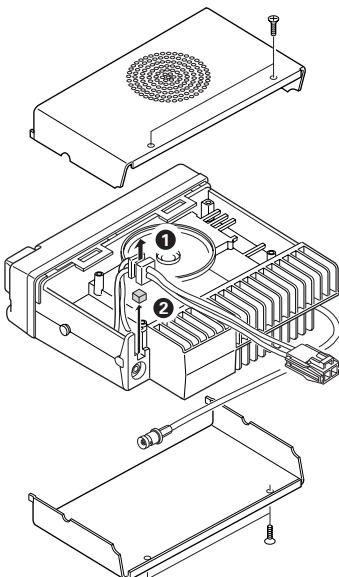
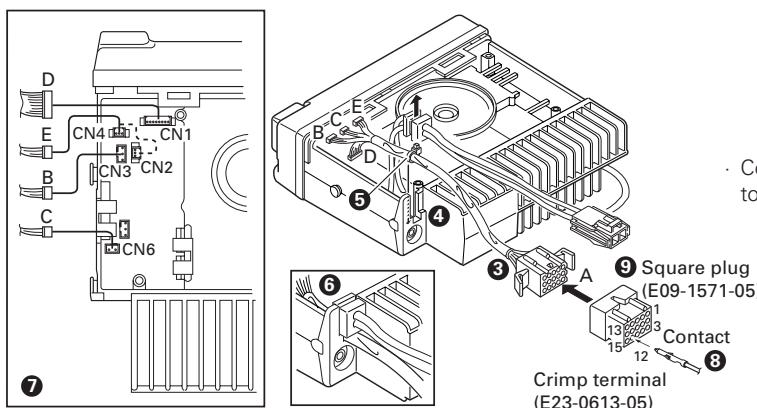

Fig. 1
Fig. 2
1. Remove the upper and lower halves of the transceiver case, and lift the DC cord bushing (①) from the chassis.
2. Remove the pad as shown in Figure 1 (②).
3. Insert the KCT-19 cable (③) into the chassis (④). The wire harness band (⑤) must be inside the chassis.
4. Replace the DC cord bushing (⑥).
5. Connect the KCT-19 to the TX-RX unit (A/2) as shown in Figure 2 (⑦).
6. Connect the KCT-19 to the external accessory by inserting the crimp terminal (⑧) into the square plug (⑨), both of which are supplied with the KCT-19.